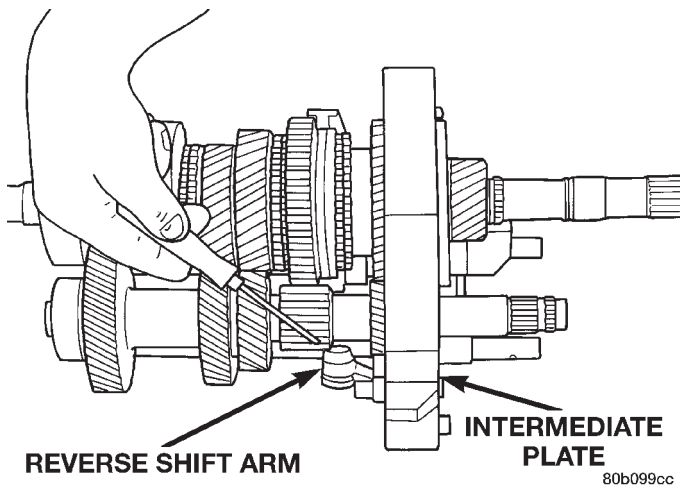
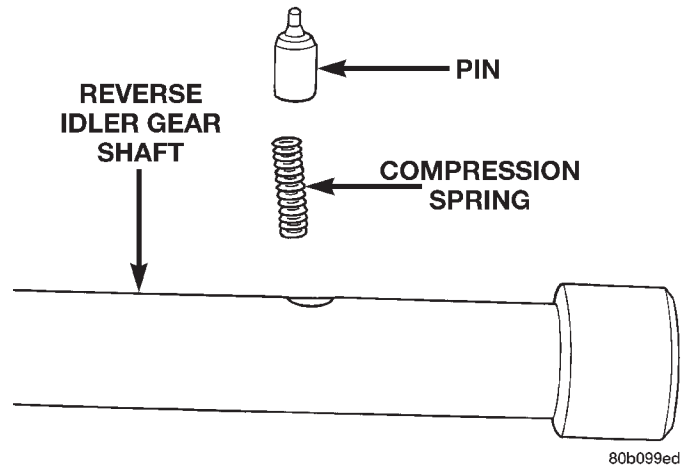

Fig. 88 Reverse Shift Arm Position
Fig. 89 Install Compression Spring And Pin
(30) Move the reverse shift arm into the reverse gear position. The reverse gear position is with the arm moved away from the intermediate plate (Fig. 88).
(31) Install the reverse idler gear assembly into position on the mainshaft and reverse shift arm.
(32) Install the compression spring and pin into the reverse idler gear shaft (Fig. 89).